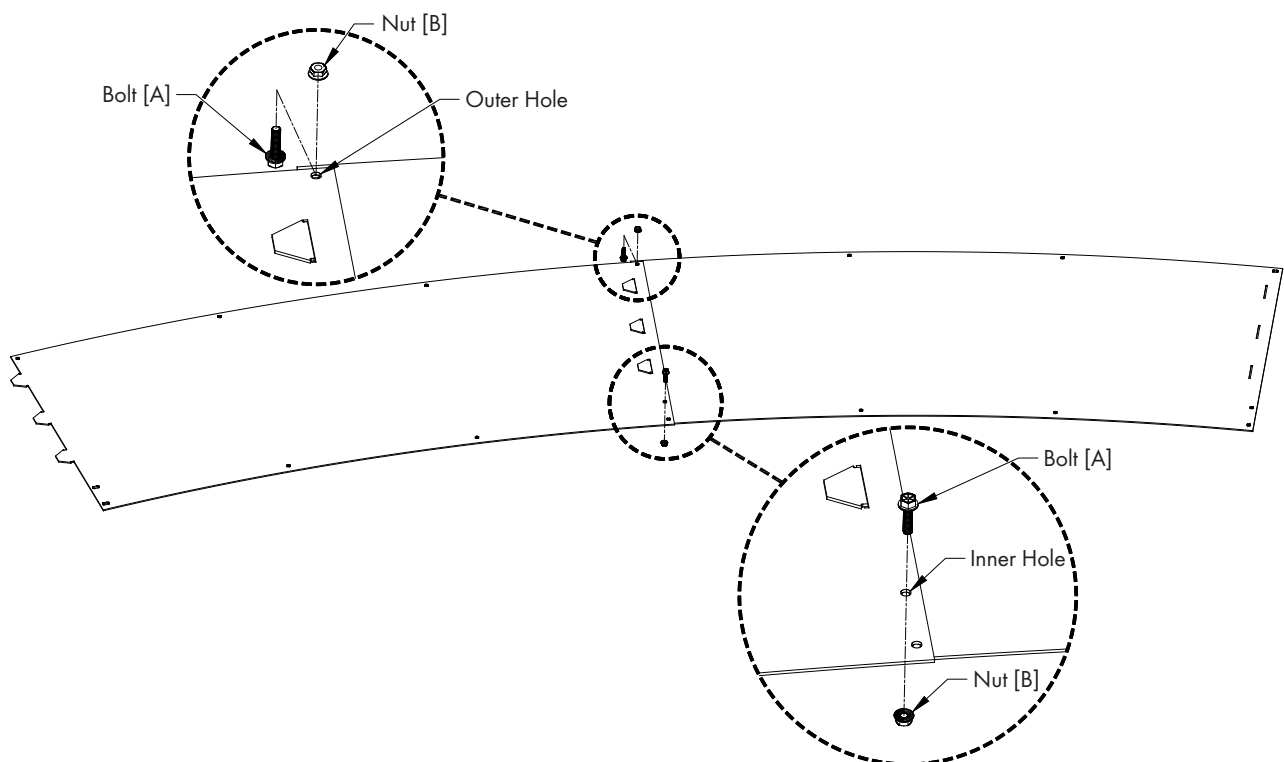

Figure 7
Fasten each of the joints in the single outer hole using (1) Bolt [A] and Nut [B], with the nut on the side with the tabs. At the inner pair of holes of each joint fasten using (1) Bolt [A] and Nut [B] with the bolt head on the side with the tabs. See Figure 7.